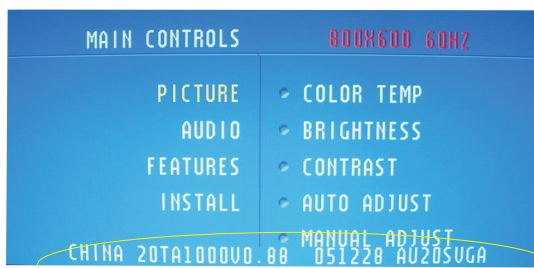

Fig. 24
- 3). Press "MENU" button, wait until the OSD menu appears (See Fig. 24).